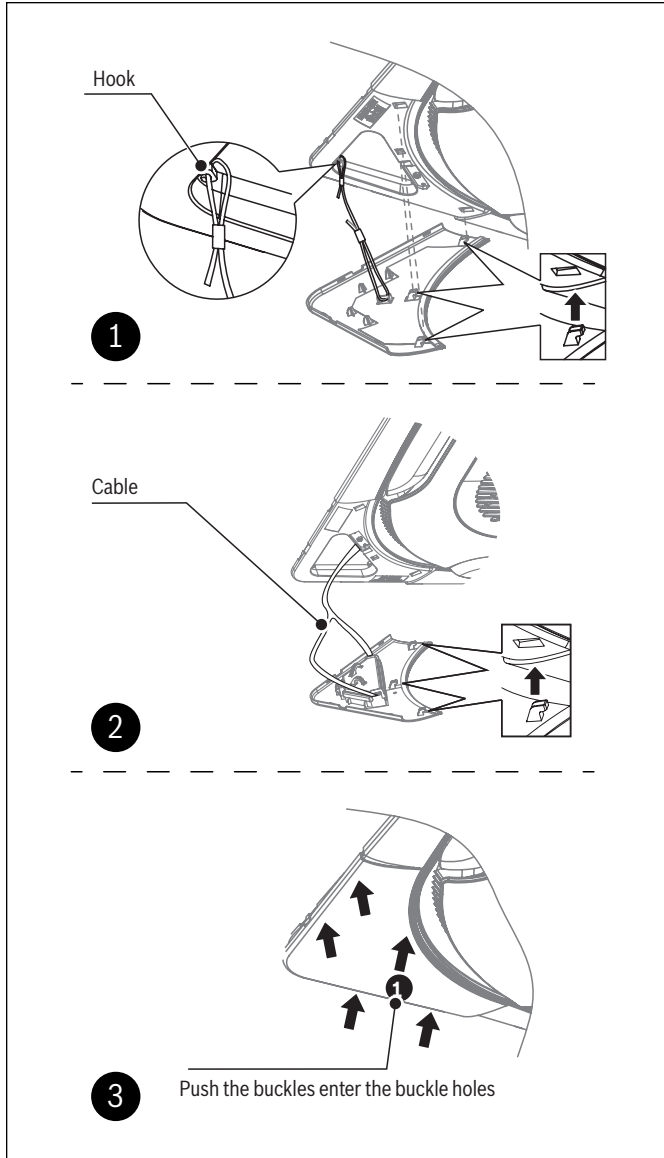

Figure 82
- a. Attach each corner cover lanyard to the hooks on the corners of the panel (see Figure 82).